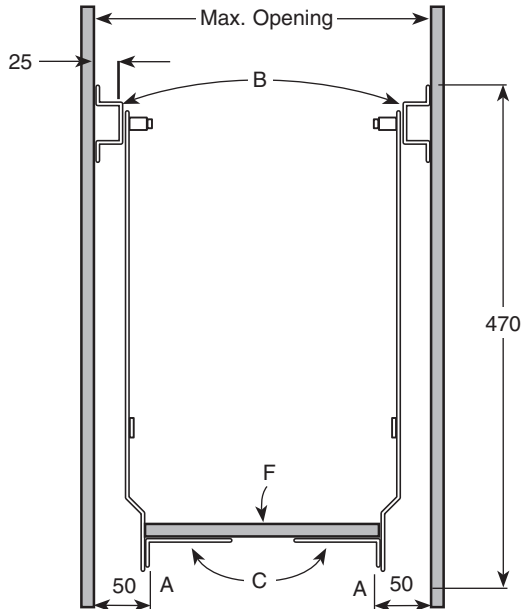

Figure 1
These appliance lifter brackets consist of two independent scissor hinges that are mounted on cabinet sides with self-tapping screws. Because no connecting rod is required between hinges, the brackets can adapt to any cabinet inside width. Tray or board (F) width should be equal to inside cabinet width, less the overall hinge dimensions (A – Figure 1).